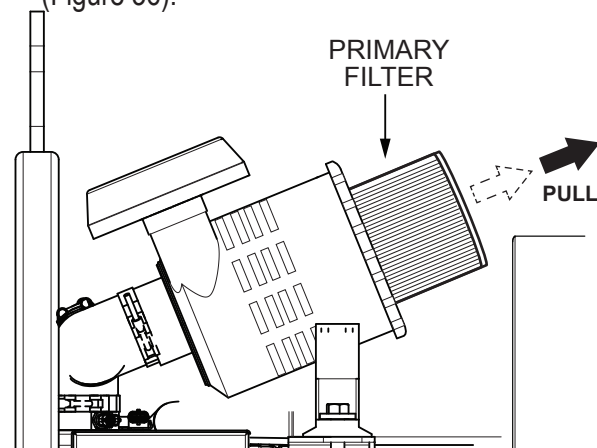

Figure 36. Primary Filter
4. Pull out the primary filter from the main canister (Figure 36).